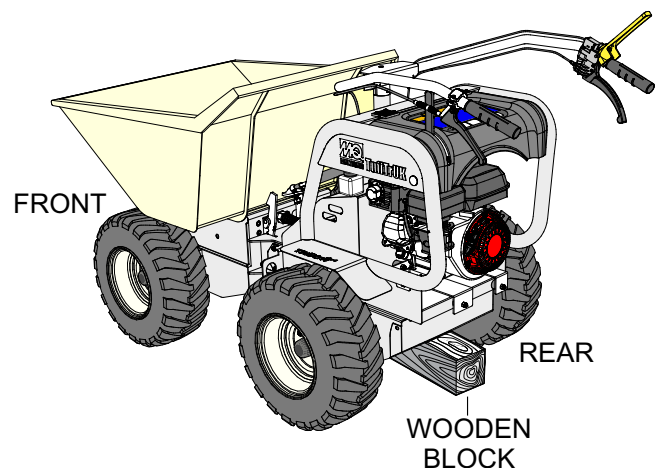

Figure 52. Wood Block Placement
1. Lift the buggy and place wooden blocks (Figure 52) at the front and rear of the buggy. Place blocks so that the front and rear wheels can rotate freely just above the ground.